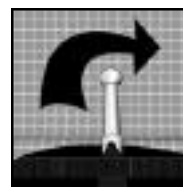

Figure 26
1. Rotate clear plastic WA-11 toggle so that it is perpendicular to the WA-11 black webbing slots on the packbag. **Refer to Figure 26.**